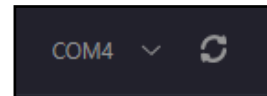

Figure 13. COM Port Dropdown Menu and Refresh Button
7. Select the COM port that the ADICUP3029 is connected to. It should read: If unsure of the COM port number refer to the Board Setup section. If the correct COM port does not appear in the dropdown menu right away, click the arrows to the right of the dropdown to refresh the list of ports (see Figure 13). If the port still does not appear, close the SensorPal GUI, power cycle the board, then reopen SensorPal and try again.